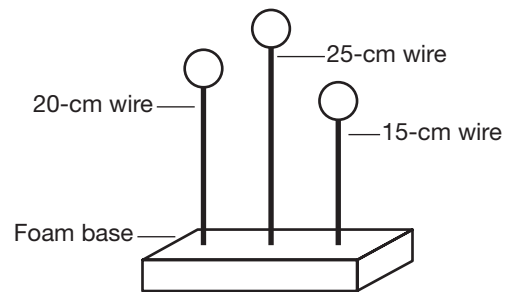

Figure 1.
6. Insert the 15-cm wire one cm from the opposite end of the base, in line with the other two wires (see Figure 1).